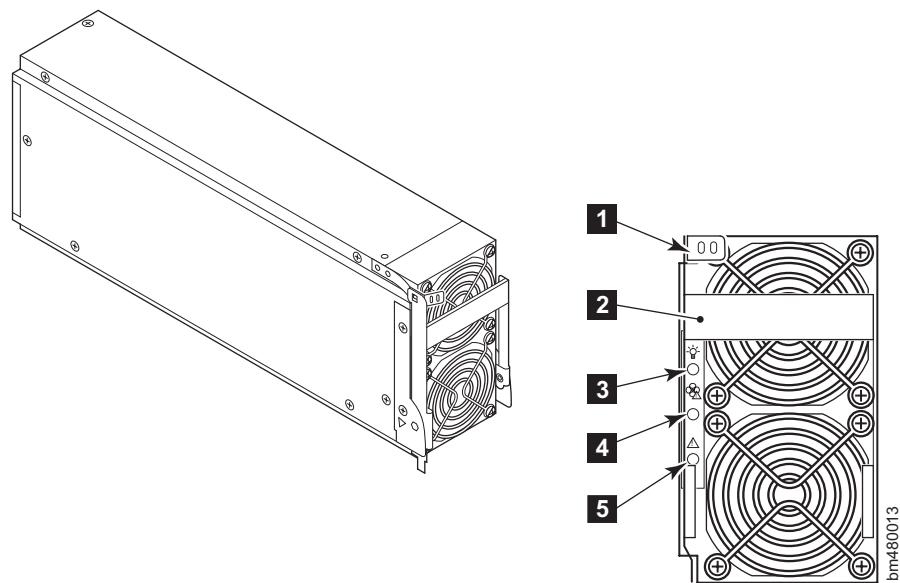

Figure 20. Power supply LEDs
- Power LED ( **3** in Figure 20)
1. Check the LED indicators on the power supply (see Figure 20). The LED patterns may temporarily change during POST and other diagnostic tests; for information about how to interpret the LED patterns, refer to Table 8 on page 44.
Figure 20 shows the location of the LEDs and other parts on the power supply.
Table 8 on page 44 describes the power supply LED patterns. It lists the name, reference number in Figure 20, and possible colors of each LED. It also lists the status of the switch that is associated with each LED color and action that you can take in response to that status.